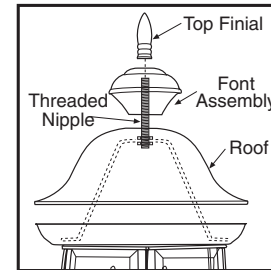

Figure 3
- b. For harp assembly roofs, unscrew top finial to remove font assembly and roof from threaded nipple. Insert bulbs. Reattach roof, font assembly and top finial. (see figure 3)